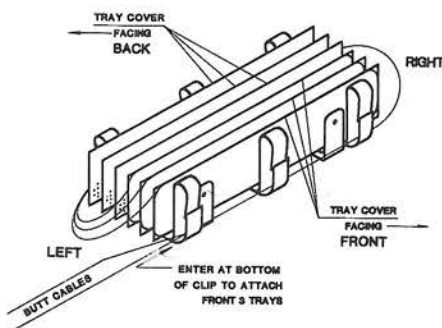

FIGURE 6
7.02 Route the buffer tubes for the left front three splice tray positions through the bottom set of buffer tube retainer clips. These buffer tubes will enter the front three Splice Trays at the left top corner, Figure 6. Mark the buffer tubes 1" beyond the point where they enter the tray.